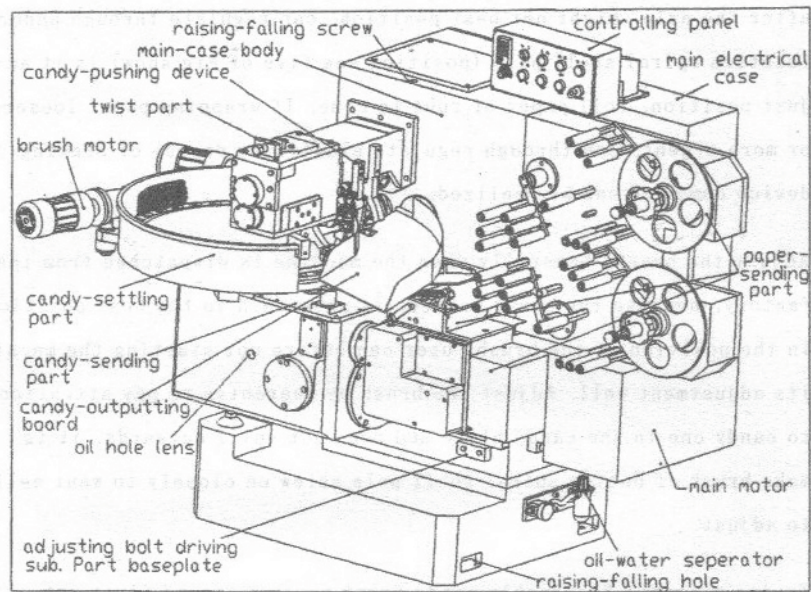
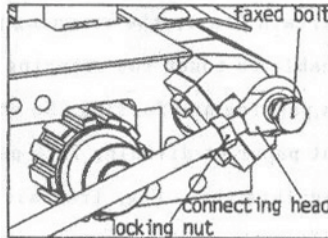

Figure 1
Figure8
- 3.2 **Connecting the Power Supply** - Open the main electrical box at the back of the machine (see Figure 1 and Figure 8) and connect the supply as shown in the wiring diagram.
- 3.3 **Connecting Air Supply** – The compressed air supply should be connected to the oil/water separator on the machine (see Figure 1).